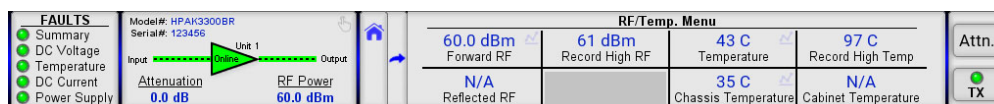

Figure 1: Status & RF/Temp. Menu
- Review the temperature readings. See Figure 1.